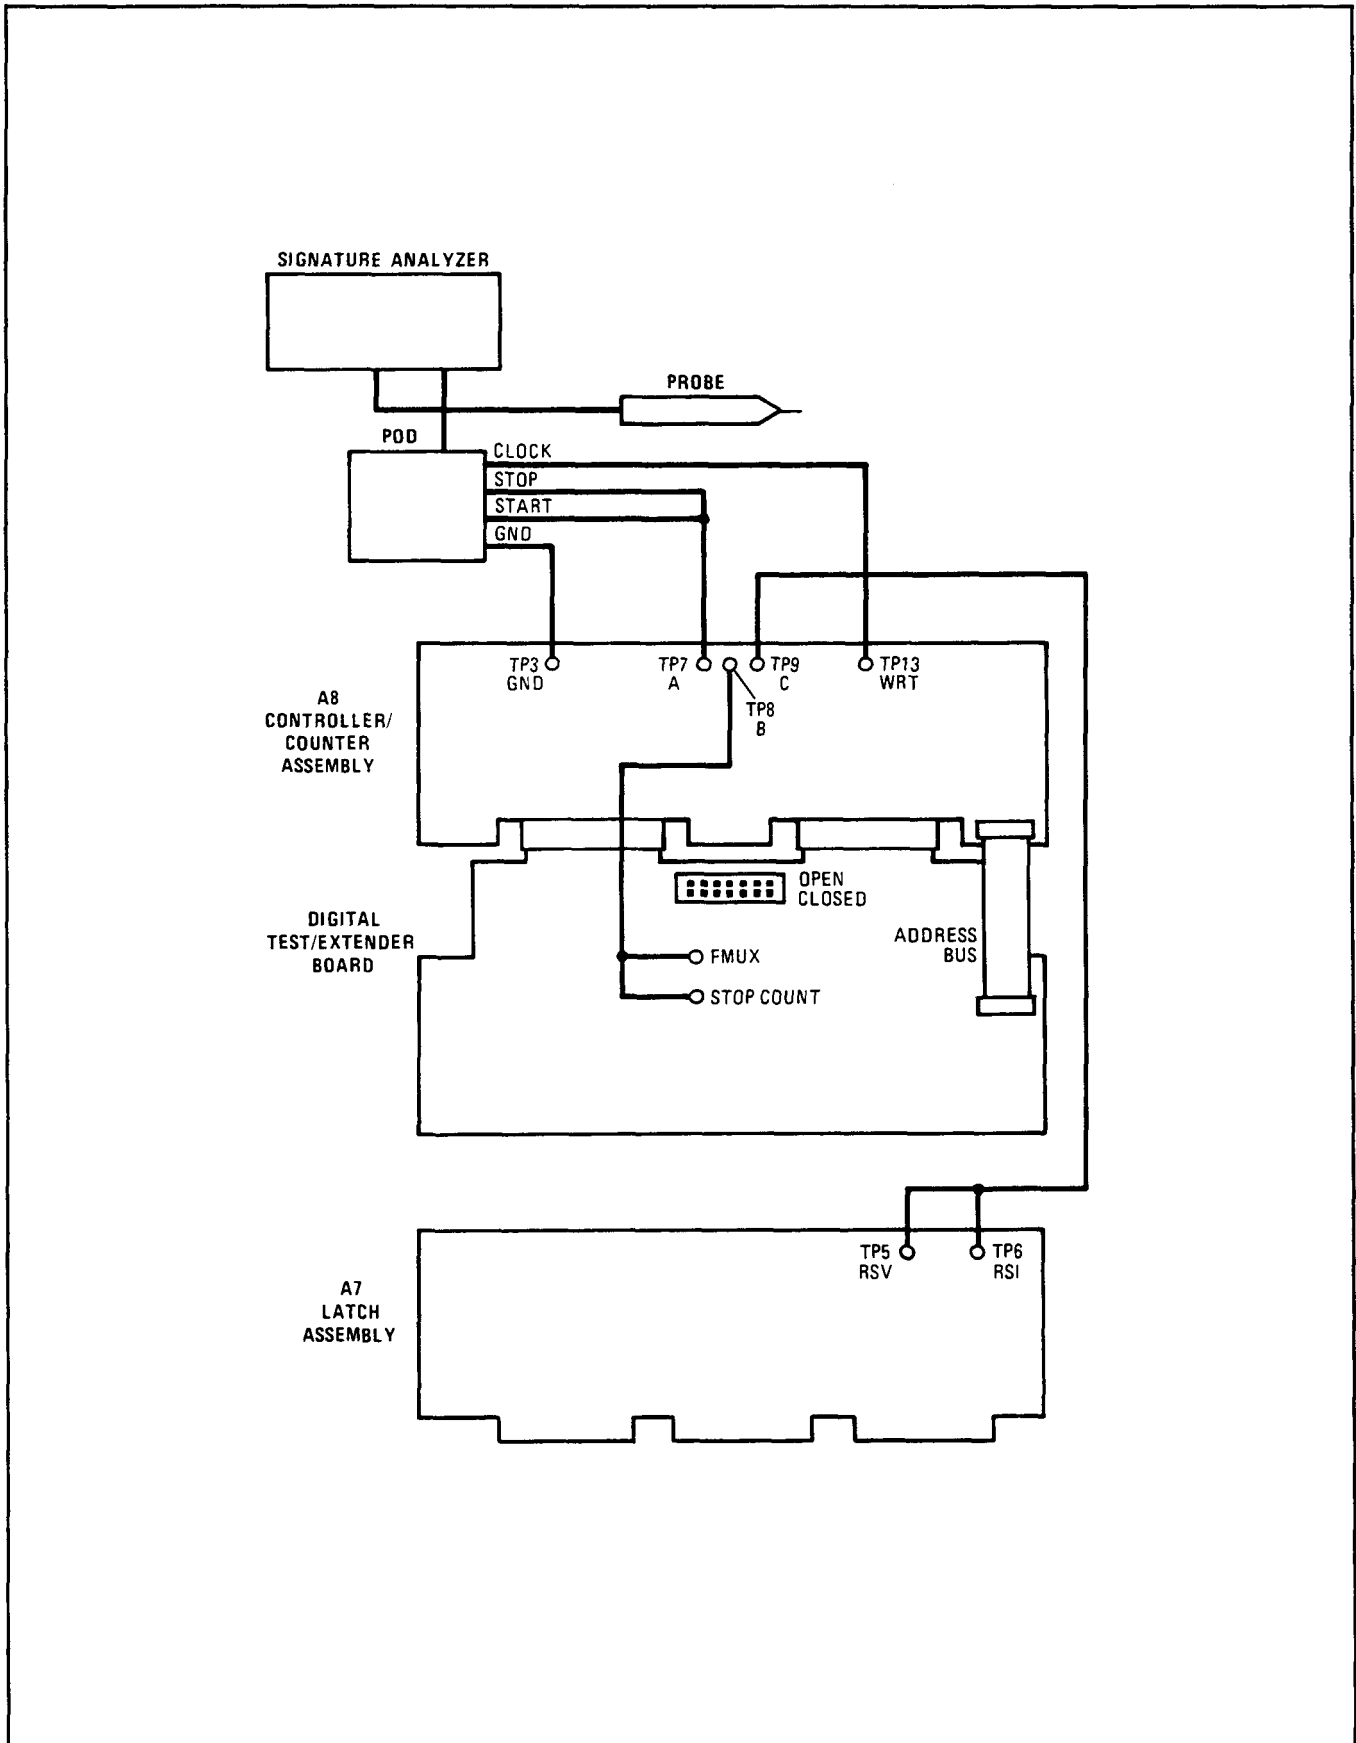

Figure 8D-6. Controller/Counter Assembly Troubleshooting Setup, $\sqrt{1}$ Step 2
2. Interconnect the Controller/Counter Assembly, the Latch Assembly, the extender board, and the signature analyzer as shown in Figure 8D-6. Set the switches on the digital test/extender board to the OPEN position.